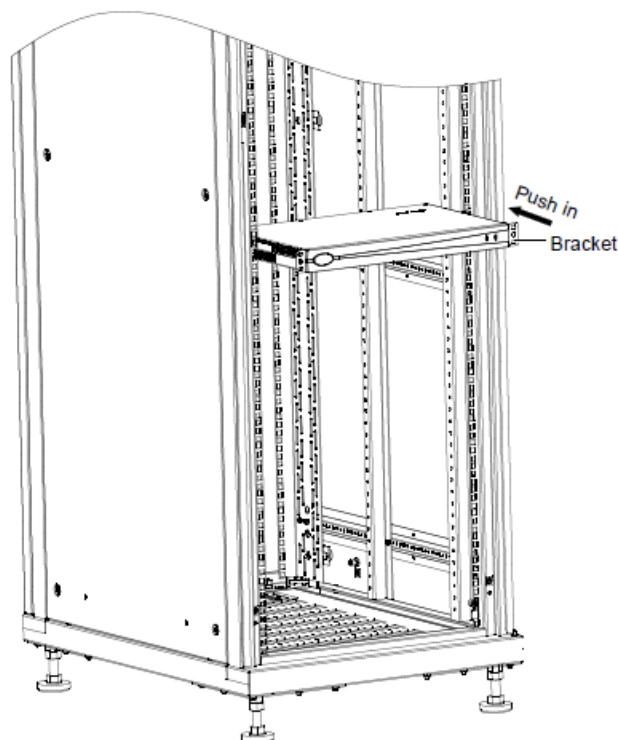

Figure 2-1 Installing LTS in rack
2. Place the LTS on the guide rails in the rack, and push the LTS into place, as shown in Figure 2-1.
3. Use accessory screws to secure the LTS to the rack through the brackets (see Figure 2-1) on both sides of the front panel.